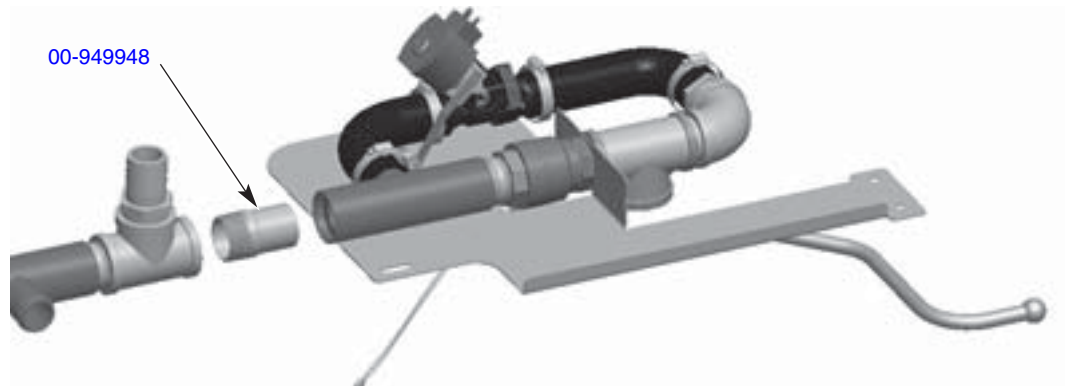

Fig. 12
6. Remove turned down threaded piece (00-949948) from drain tee at the unload end and replace with NPT pipe plug shipped with the machine. 00-949948 can be discarded. See Fig. 12.